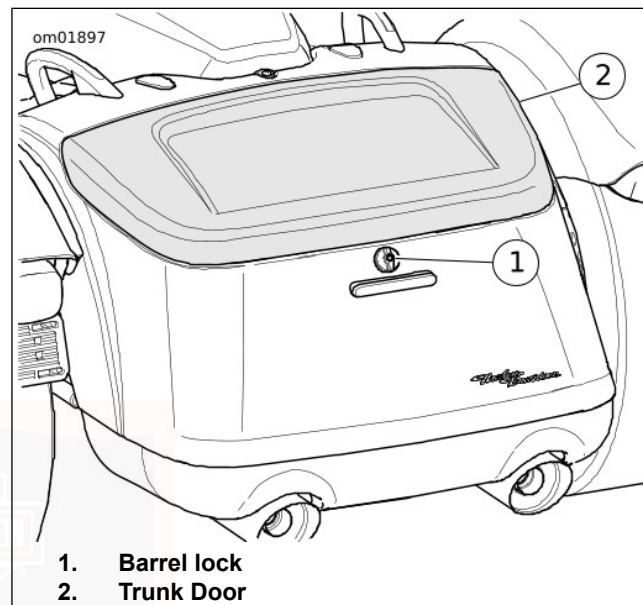

Figure 32. Trunk (typical)
2. See Figure 32. Turn the barrel lock clockwise to unlatch door. Open trunk door.